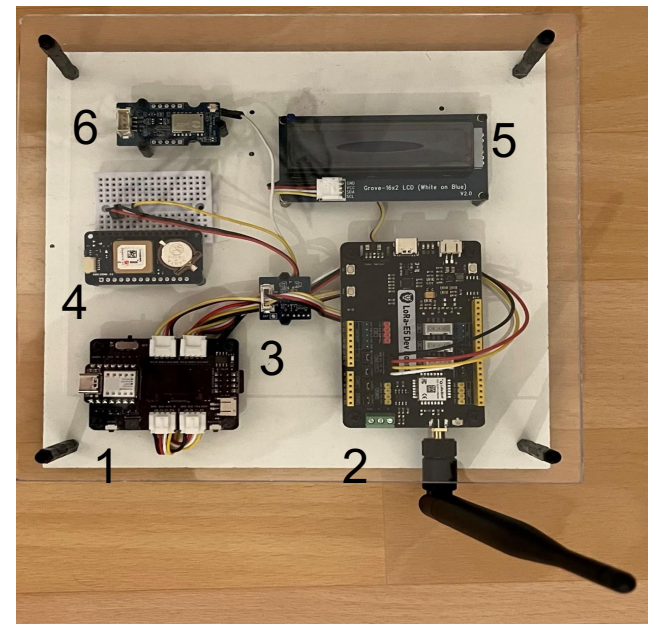

Figure 1: Module B
- Revised Module B (see Fig. 1)